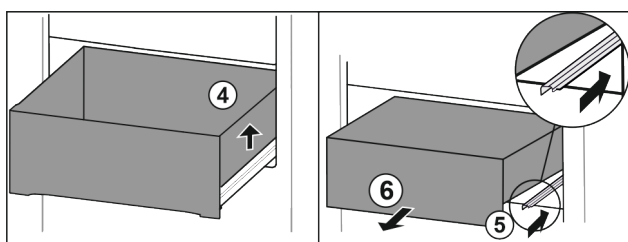

Fig. 89
- Lift drawer on the right. Fig. 89 (4)
- Insert right rail. Fig. 89 (5)
- Remove drawer to the front. Fig. 89 (6)